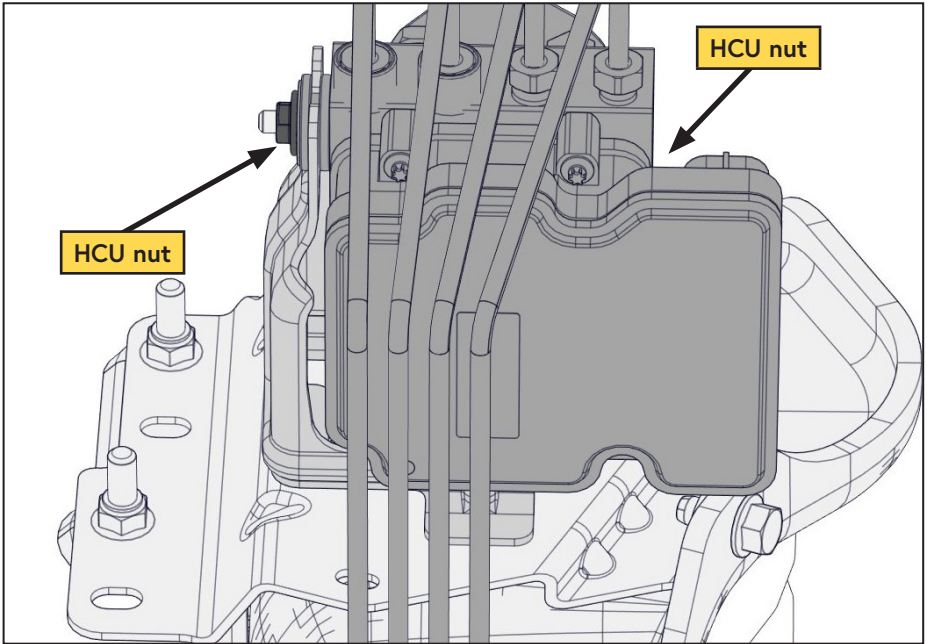

Figure 14 — Relocating the HCU
*Depending on the application, the following steps may not be necessary. If the HCU is mounted towards the firewall (Figure 19 on page 18), proceed to the next chapter. If the HCU bracket is mounted using the holes shown in Figure 14, follow the steps in this chapter.*
- ☐ Remove the (x2) nuts securing the HCU module to the bracket (Figure 14).